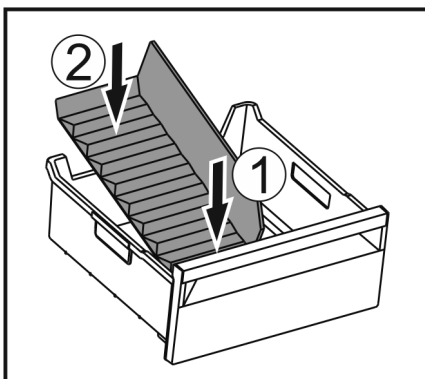

Fig. 49
- Put in the divider at the front at first Fig. 49 (1).
- Lower the rear part Fig. 49 (2).